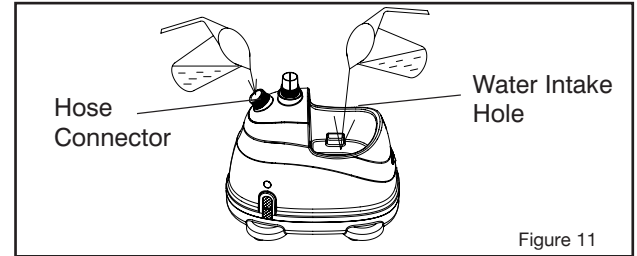

Figure 11
6. Slowly pour the water-vinegar mixture into the hose connector (Fig. 11).